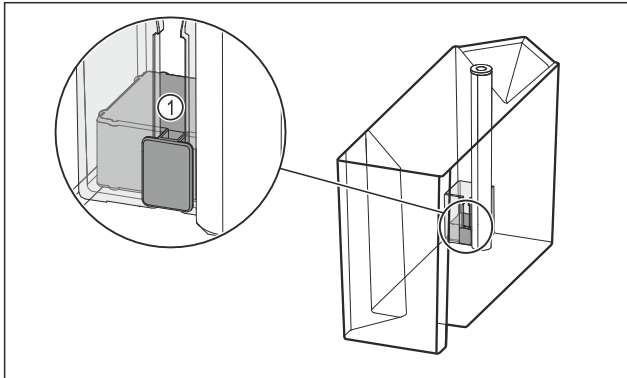

Fig. 164
- ▶ Check whether the float Fig. 164 (1) is jammed. If the float is jammed: